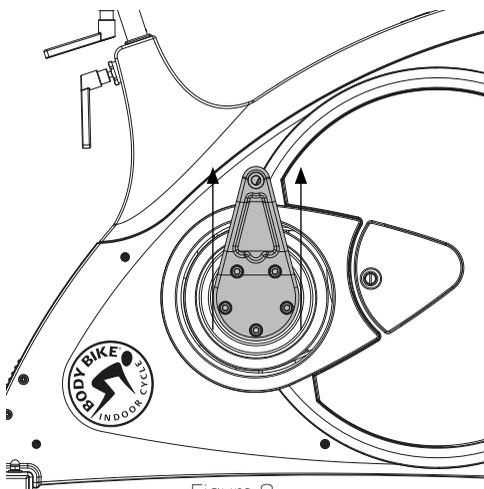

Figure 8
- 1) Place the right pedal arm with the socket pointing upwards, see figure 8 .